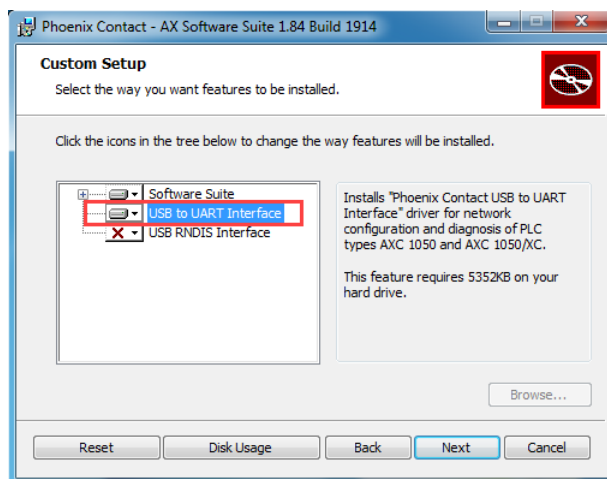

Figure 6-1 Selecting the USB driver
The "Phoenix Contact USB to UART Interface" USB driver must be selected explicitly when installing the AUTOMATIONWORX Software Suite (see Figure 6-1). This is the only way to ensure that the AXC 1050 (XC) will be detected as a USB device under Windows®.